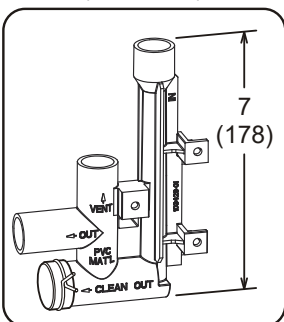

Figure 35. Trap / Drain Assembly Using 1/2" PVC or 3/4" PVC
3. Install the cap over the clean out opening at the base of the trap. Secure with clamp. See Figure 35.
4. Install drain trap using appropriate PVC fittings; glue all joints. Glue the provided drain trap as shown in Figure 35. Route the condensate line to an open drain. Condensate line must maintain a 1/4" downward slope from the furnace to the drain.